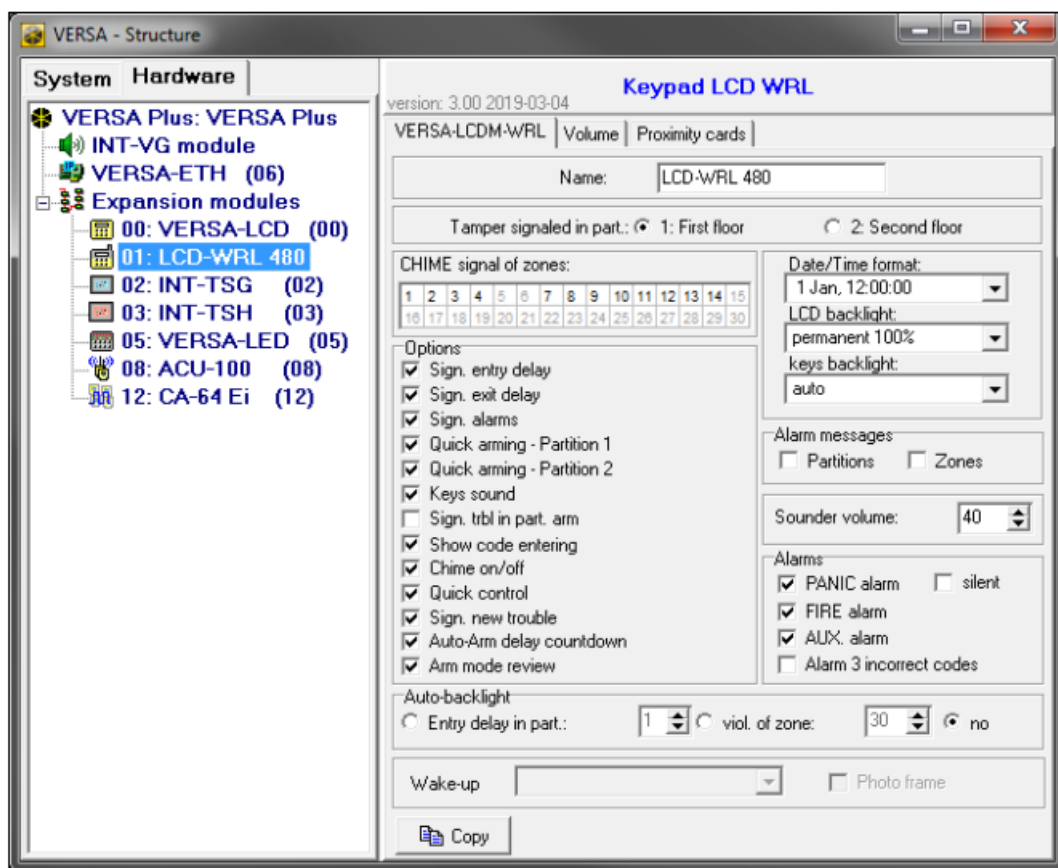

Fig. 4. DLOADX program: keypad settings stored in the control panel.
- DLOADX program: “VERSA – Structure” window “Hardware” tab “Expansion modules” branch [keypad name] (see: Fig. 4),